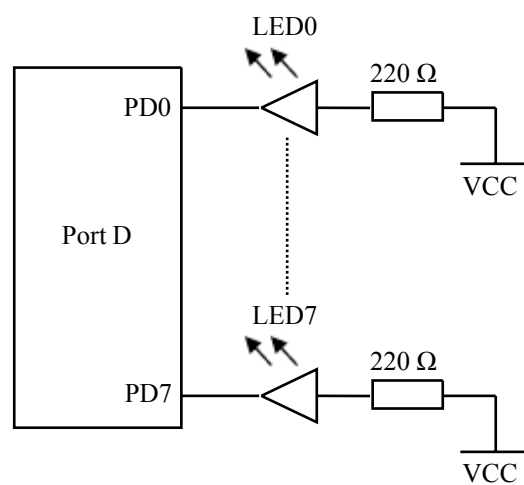

Figure 2
5. Retain the circuit in previous section. Then, construct the circuit shown in Figure 2.
7. By using both circuits in Figure 1 and Figure 2, write a program to read the logic levels from the DIP switch and output the reading via LEDs. Then, observe the changes of LEDs. Are the changes of LEDs coherent with the changes of the DIP switch? _____
8. Students are required to write a program that function a 8-bits UP DOWN Binary Counter. By using the circuit in Figure 1, assign a switch as COUNT SEQUENCE SELECTOR (CSS) to select the count UP with the logic 1 and count DOWN with logic 0. The counter should continue from its current counting state when the counting status changes from UP to DOWN or vice versa. Display the output of the counting sequence via LEDs in Figure 2. Repeat the sequence after the counting overflow. Students should include a delay sequence of at least 0.5 seconds to each counting interval in order to capture the changes of the counting sequences.